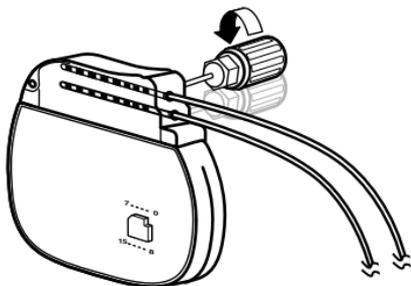

Figure 2. Tightening the setscrews in the self-sealing grommet.
4. For each extension, lead, or plug, fully insert the torque wrench into each self-sealing grommet of the connector block and tighten each setscrew (Figure 2).